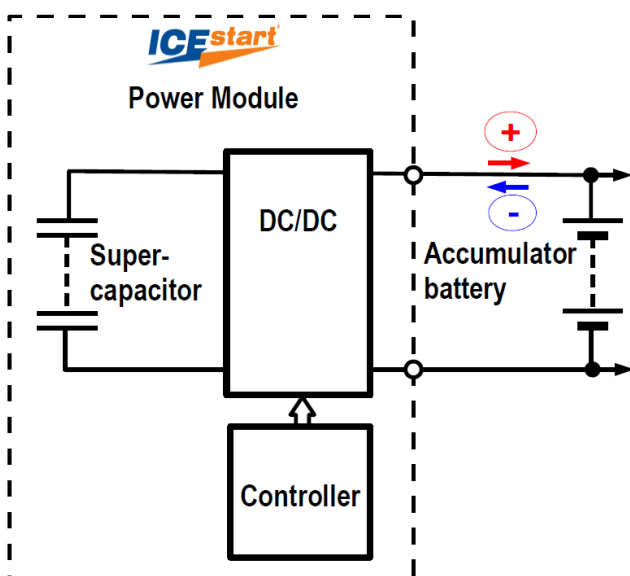

Fig. 1 Functional Block Diagram
The module (Fig. 1) contains a supercapacitor, a DC/DC converter and a controller. The supercapacitor acts as an electric power storage. As opposed to the accumulator, the supercapacitor is not a chemical source of the current and it provides more power while being smaller and lighter.
- The module is switched off during long parking. It switches on automatically when any element of the electric equipment actuates, for example, the central lock. The supercapacitor starts to charge, which corresponds to the negative current of the module (the direction of the current is shown in fig. 1 as the blue arrow). When the supercapacitor is charged and the current equals zero the module is ready to start the ICE.
- While the starter is switched on, the module's current is positive (the direction of the current is shown in fig. 1 as the red arrow). The current is set in a way that does not overload the starter but is enough to provide dynamic cranking.